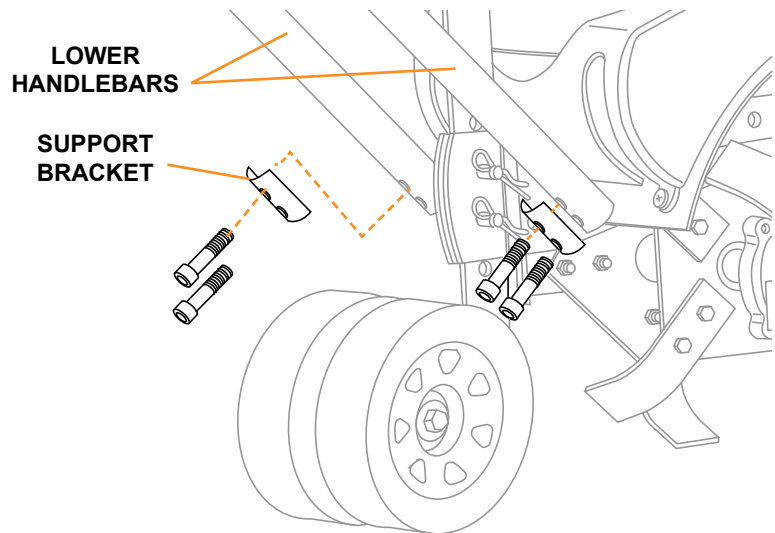

Figure 5
1. Attach the two lower handlebar tubes to the tiller with a tube support bracket and two hex bolts on each side (see Figure 5).